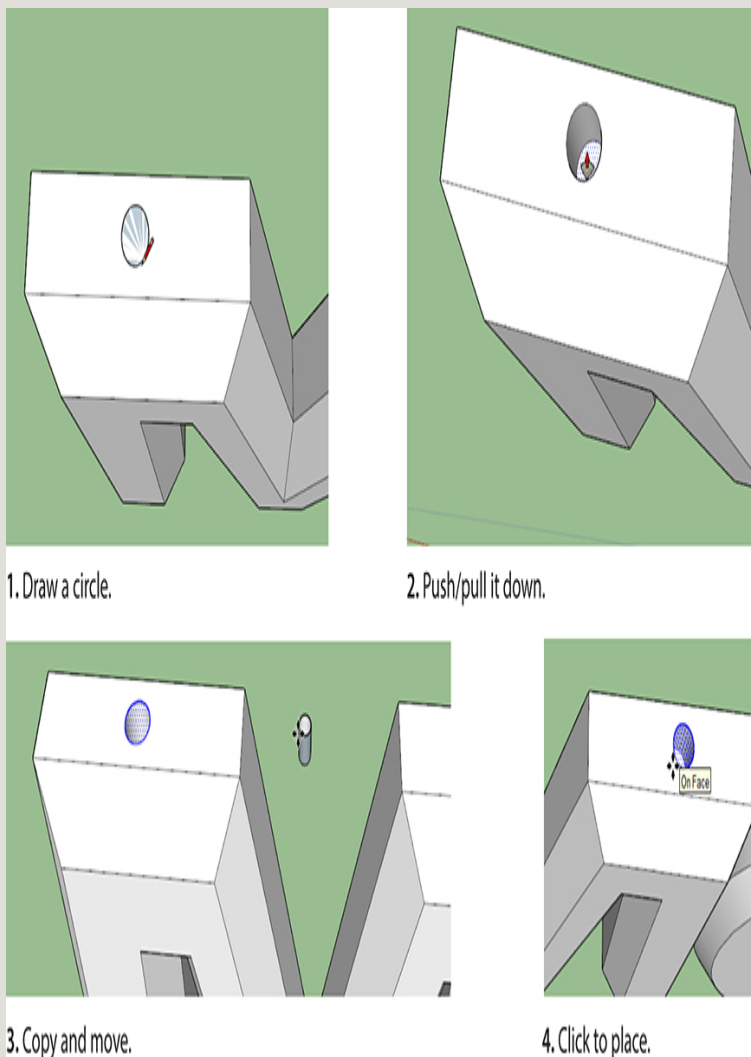
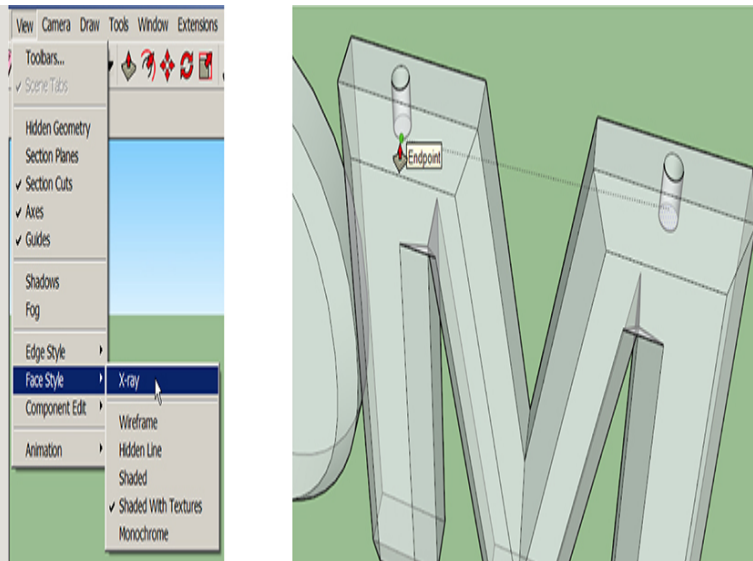

Figure 3-100 Make a pencil hole, and copy it.
Figure 3-101 Make a pencil hole, draw a second circle, and with X-ray on, inference match the hole's depth.
8. Make the pencil holes (Figure 3-100). Draw a circle and push/pull it down. Select and copy it, and then move it to another location. If for some reason this doesn't work, you can also make one pencil hole, make the model transparent by clicking View > Face Style > X-ray, draw a second circle, and inference match the hole (Figure 3-101). Turn off X-ray by clicking it again.